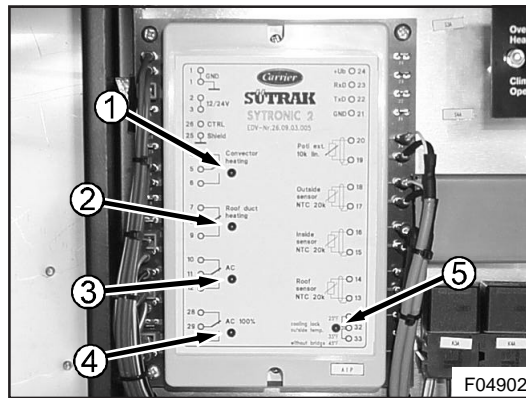

Figure 6: LED indicators on Sytronic cover
**LED indicators on Sytronic cover- Figure 6**
- LED indicator light (5) shows when the refrigerant compressor clutch is locked.
2. Make sure the outside temperature is above the lock out point. The lock indicator light (5, Figure 6) on the Sytronic should be extinguished.